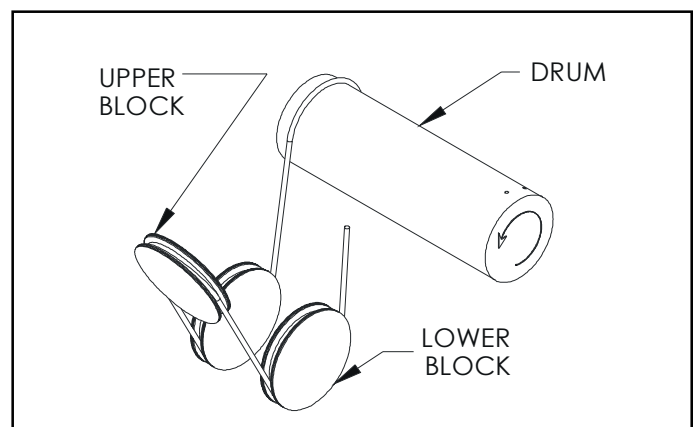

Figure 5-5. Reeving Diagram - 4 Part Single Reeved. (Note: Arrow on Drum Indicates Direction of Drum when Lowering.)
b) Before removing the old rope, refer to reeving diagram, Figure 5-5. To assist with re-reeving your hoist, refer to the reeving diagram and corresponding paragraph that describes the reeving procedure.
- (5) With outer lower block covers removed, thread the wire rope through the sheaves of the upper and lower block as shown in Figure 5-5.
- (6) Attach swaged rope end to the dead end anchor pin and fasten with either the new cotter pin provided with the rope ("B" & "C" Frame) or the retaining rings provided with the hoist ("D" Frame).
- (7) Replace the lower block sheave covers.
- (8) Lubricate cable per Paragraph 4-3.